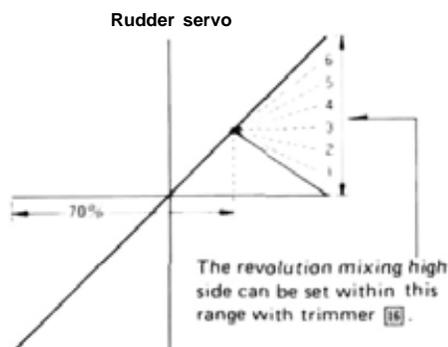

Fig. 60
4. The compensation setting amount should normally be about 3 ~ 4 of Fig. 60 for fuselage system and 4 ~ 5 for frame system.